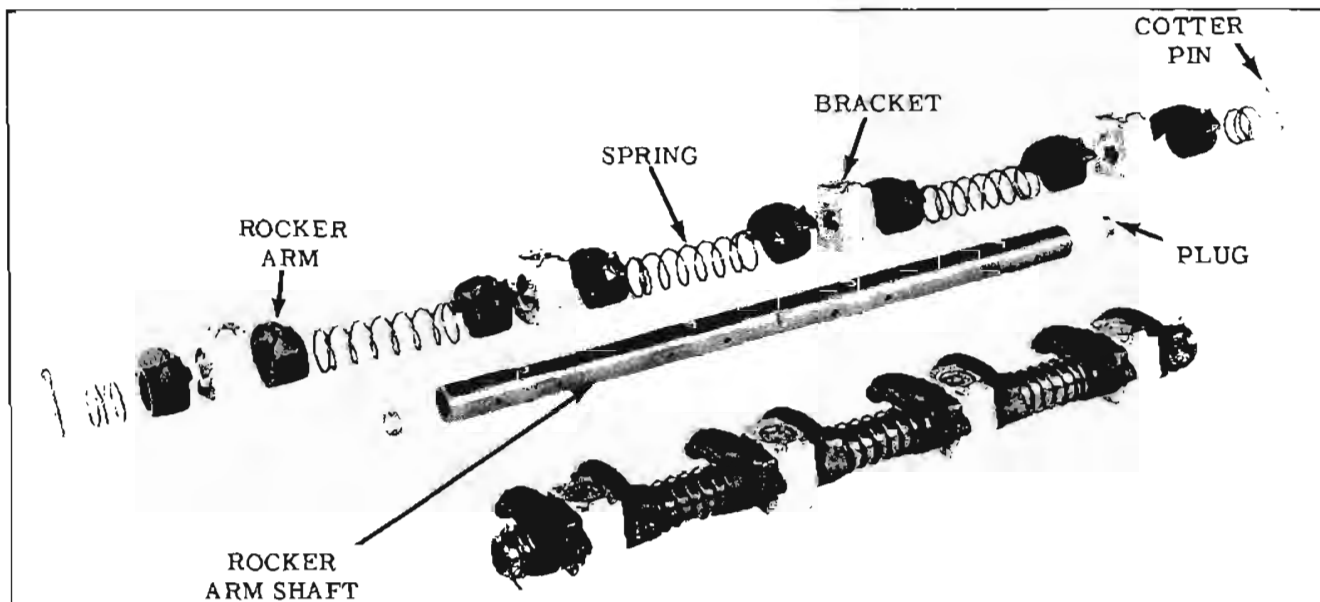

Fig. 8-108 Rocker Arm Shaft Assembly
2. Lubricate frictional surfaces of rocker arms and shaft with SAE 10W30 oil and assemble. (Fig. 8-108)